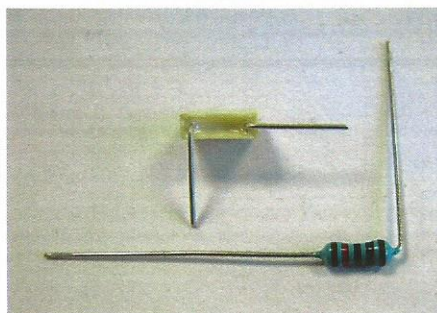

Figure 1 - Preparing legs.
4. Take the new C4 and Resistor and bend the legs as shown below in Fig 1.